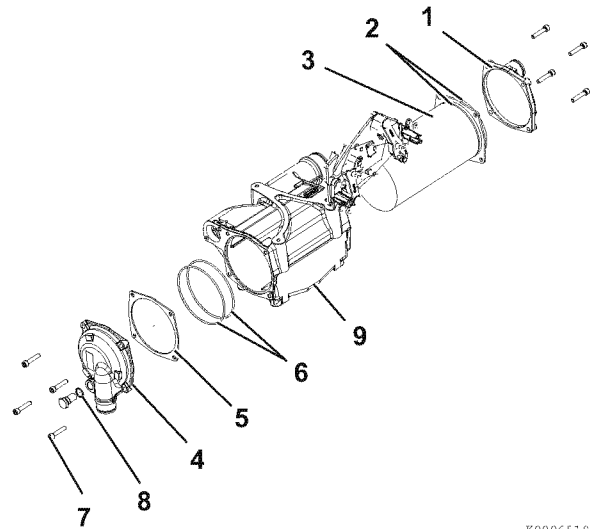

Figure 7-13
2. Remove outlet cover (4, **Figure 7-13**) and spacer (5, **Figure 7-13**).
3. Remove inlet cover (1, **Figure 7-13**).
4. Pull core (3, **Figure 7-13**) from housing.
5. Remove O-rings (2 and 6, **Figure 7-13**).
6. Remove anode (7, **Figure 7-13**) and copper gasket (8, **Figure 7-13**).
9. Install new O-rings (2, **Figure 7-13**) on cooler core.
10. Install cooler core (3, **Figure 7-13**) and inlet cover (1, **Figure 7-13**).
11. Install one O-ring (6, **Figure 7-13**) between core and housing (9, **Figure 7-13**).
12. Install spacer (5, **Figure 7-13**), remaining O-ring (6, **Figure 7-13**) and outlet cover (4, **Figure 7-13**).
13. Install new anode (7, **Figure 7-13**) and copper gasket (8, **Figure 7-13**). *See Check and Replace Anodes on page 7-9.*